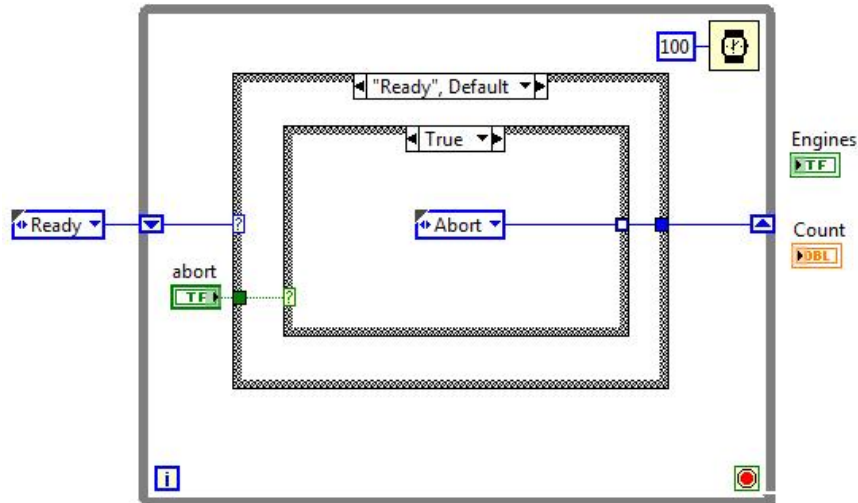

FIGURE 2.8 Wiring the Ready state to handle the Abort button being pressed.
4. Grab the terminal for the Abort button and put it inside the While Loop, close to the left side. You are doing this now to help you size things right in the next step. (As you go through the next few steps, you may find it useful to look ahead to Fig. 2.8.)
10. Wire the control to the shift register as shown in Fig. 2.8. Note the tunnel that appears as a white square. This is an error (which we will fix in a moment). It is telling